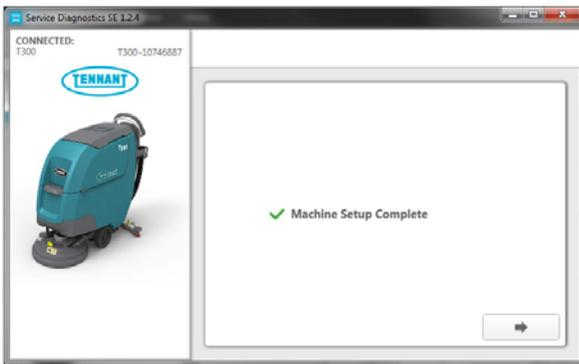

Fig. 11
- The following screen will appear when the process has completed (Figure 11). Press the arrow button to return to the Home Screen. Disconnect the USB cable from the machine and turn key off. The machine is now ready for operation.